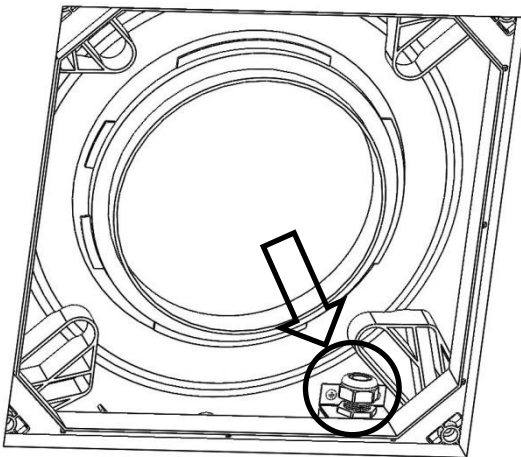

Figure 8 - Hard wire connection point
- From inside the caravan look up and locate the unit's connection point. Figure 8